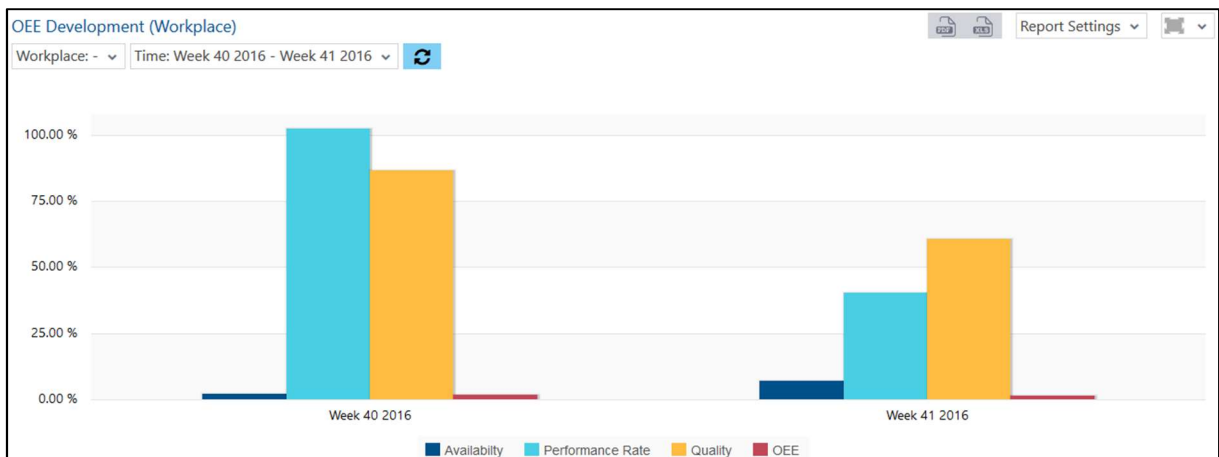

Fig. 43: OEE Development (Workplace) as a column chart
- OEE Development (Workplace) as a column chart (Fig. 43):